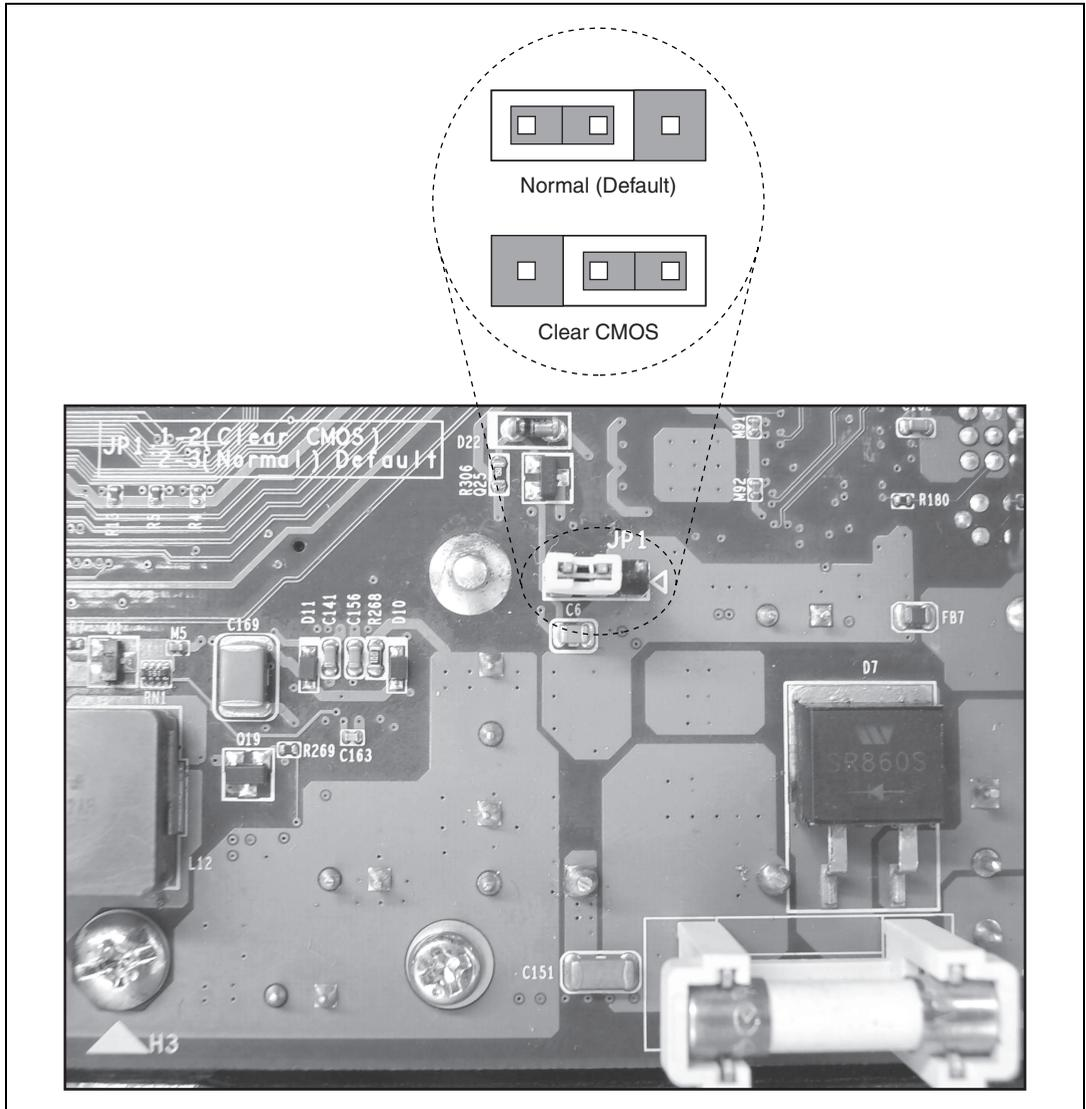

Figure 5-1. Clearing the CMOS Contents
5. Locate the jumper for clearing the CMOS contents, as shown in Figure 5-1. (For clarity, the heat spreader is not shown in the figure.)
6. Move the jumper from pins 1–2 to pins 2–3 as shown in Figure 5-1.